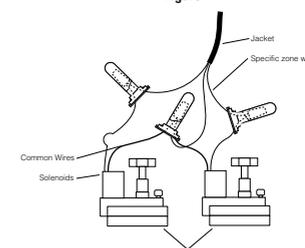

Figure 2
2. Each valve has two wires. One wire is to be connected as the common. All of the common wires for all the valves can be connected together to one common wire going to the timer. The other valve wire is to be connected to the specific station wire that is to control that valve. (See Figure 2.)